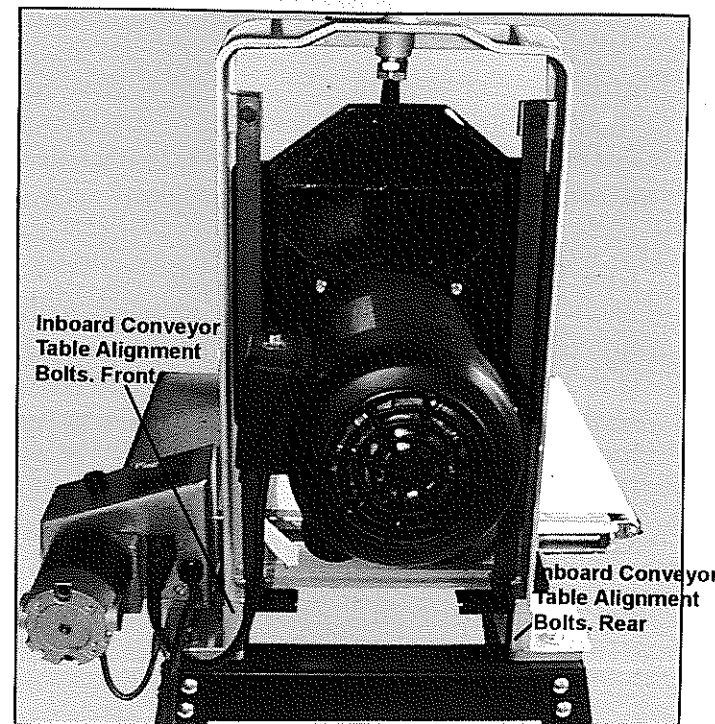

Figure 13
1. Loosen the two front and two rear adjustment bolts as shown in Figure 13, thus allowing the entire drum assembly to pivot.